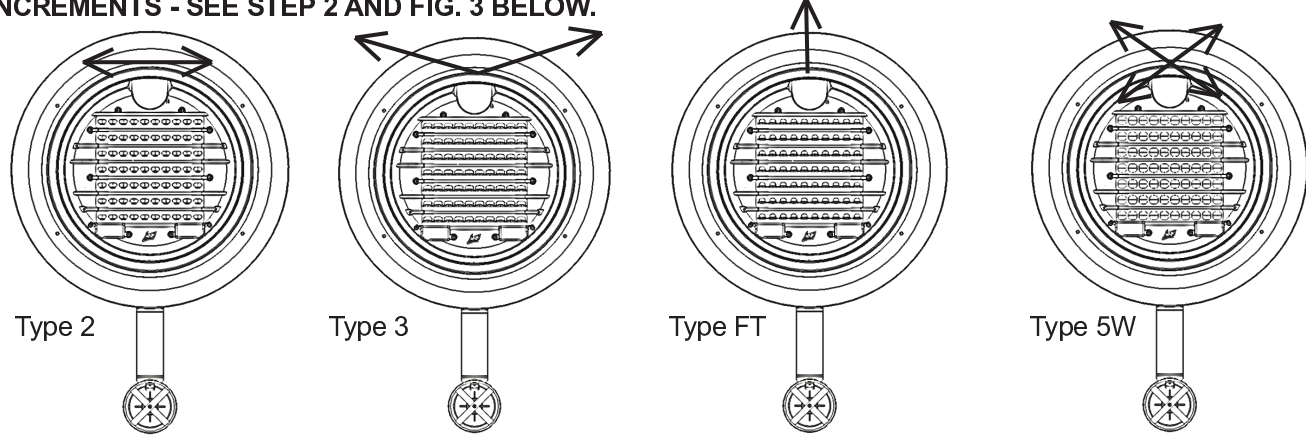

FIGURE 2
1. Match the optic in the luminaire with the corresponding optic type. Model number nomenclature on product label (inside housing) identifies optic type as well. See Figure 2.
NOTE: Pole must be pointed in right direction. Reference Figure 2 to ensure light beam direction and pole direction are correct when compared to site layout drawing.